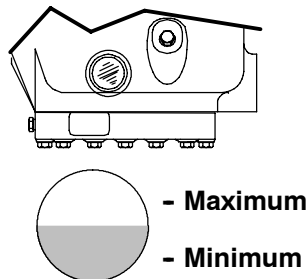

Figure 8-17. Oil Level in Sight Glass
3. After 3–5 minutes of defrost operation, turn the unit off and wait 5–15 seconds. Observe the compressor oil level in the sightglass. (See Figure 8-17). Oil level should be between the Minimum and Maximum marks.